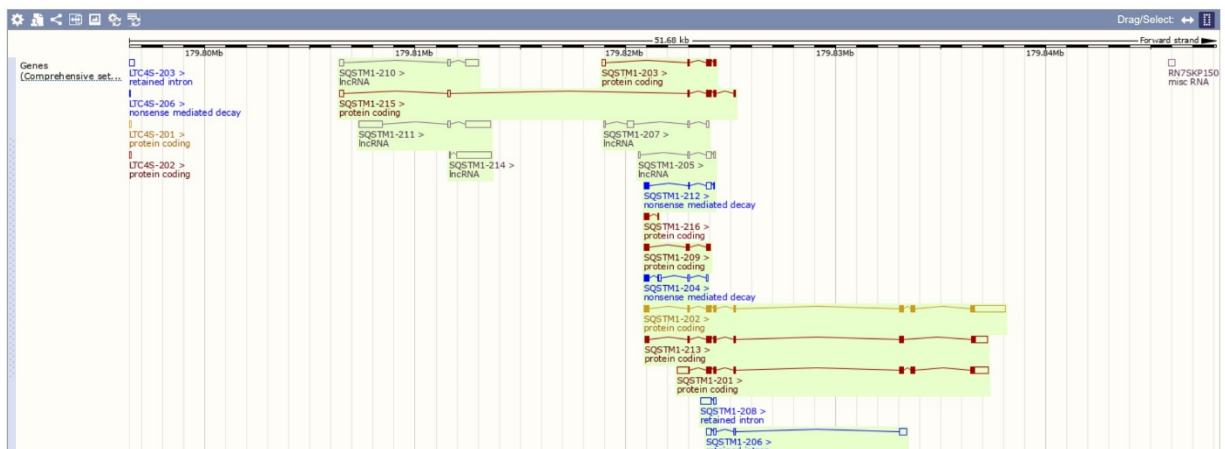

Figure 3: Transcript information of SQSTM1 gene on Ensembl website.
- Paste the gene name in the search box and press “go” (see **Figure 3**).